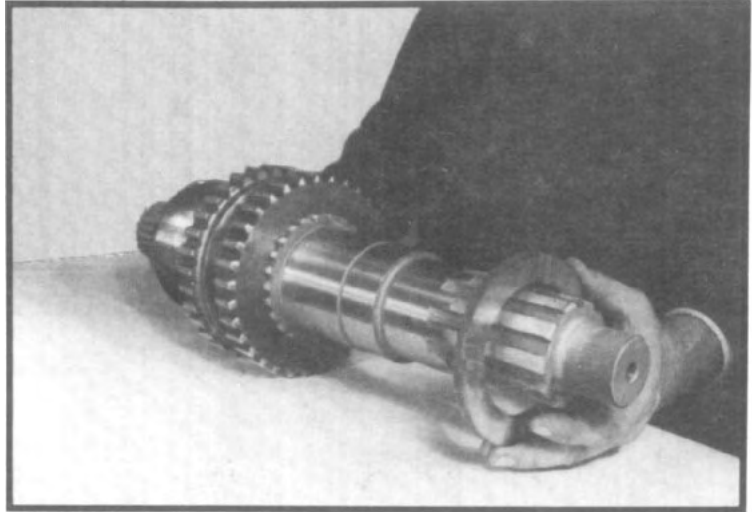

Fig. 96
1.2 Place the two identical thrust washers over the shaft and against the outside faces of the clutch gear splines. Oil groove side of washer to face outwards and toward the drive gear. (See fig. 96)